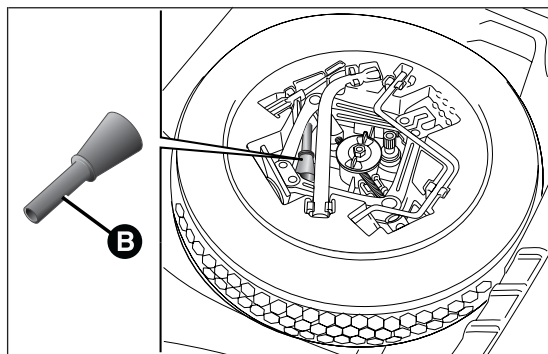
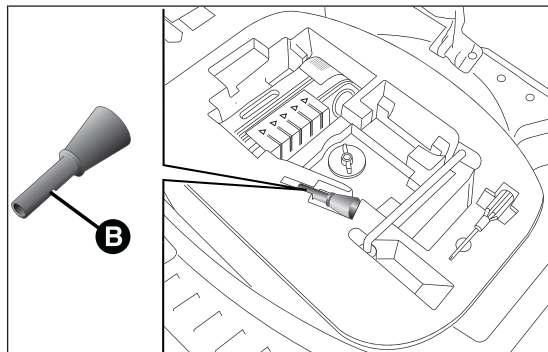

fig. 89
fig. 90
- open the luggage compartment and take the adapter B located in the tool box (versions equipped with space-saver wheel - for versions/markets, where provided) fig. 89 or in the Fix&Go Automatic container (versions equipped with Fix&Go Automatic) fig. 90;